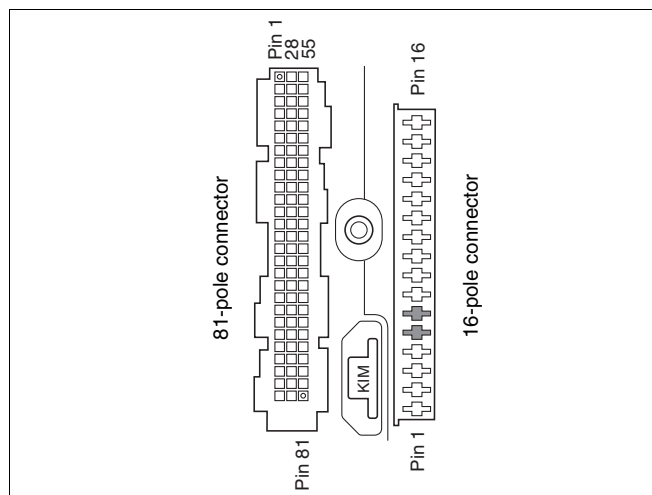
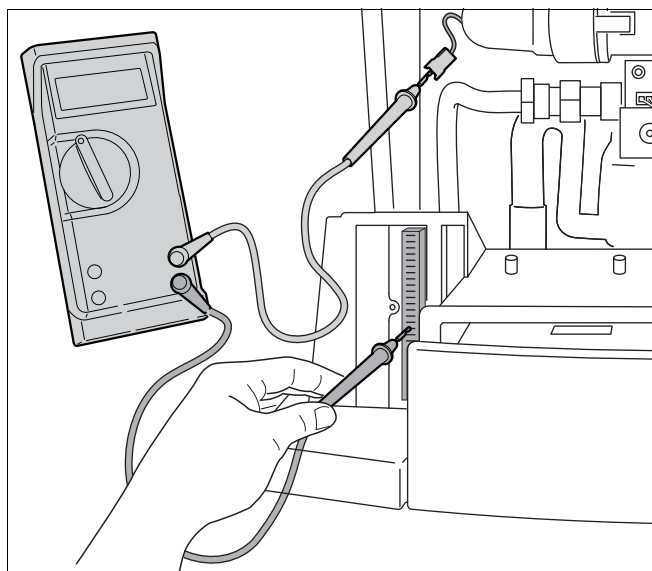

fig. 22 UBA 3 installation base
fig. 23 Testing the supply cord of the hot surface ignitor
- Test the supply cord of the hot surface ignitor to make sure that there is no short circuit in it and that it is not broken (fig. 23, fig. 22 and fig. 110 on page 126).